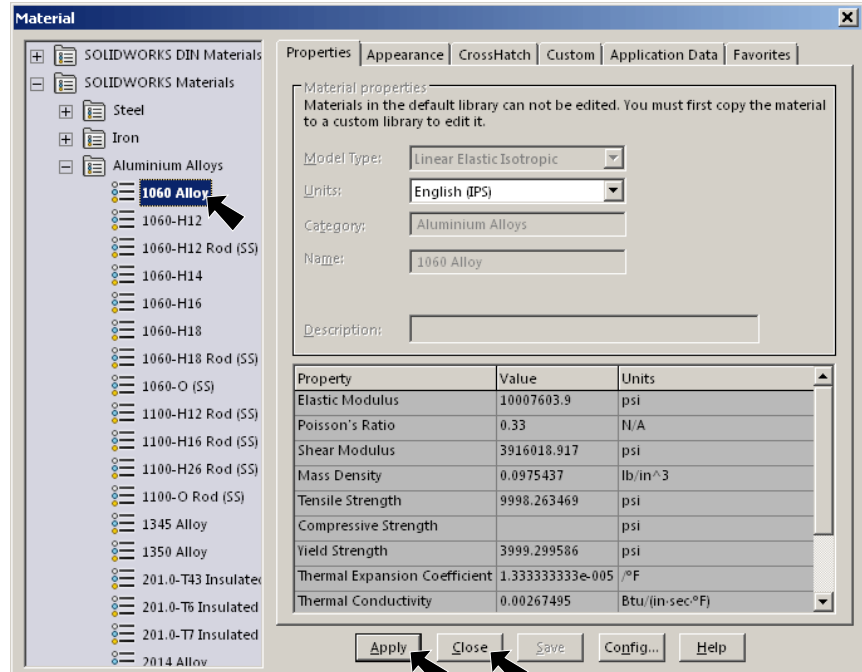

Fig. 12
- Step 2. Expand **Aluminum Alloys** in the material tree and select **1060 Alloy**, Fig. 12. Click **Apply** and **Close**.